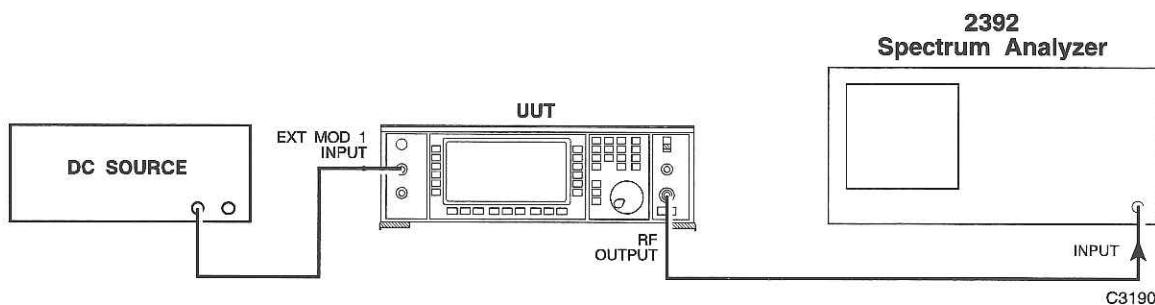

Fig. 5-2-5 Equipment configuration for AM trough nulling
- (1) AM Trough Nulling (Process 0) is performed as follows:
- (a) Connect the DC source output to the EXT MOD 1 INPUT on the UUT. Connect the RF OUTPUT on the UUT to the spectrum analyzer RF input. Equipment configuration is shown in Fig. 5-2-5.